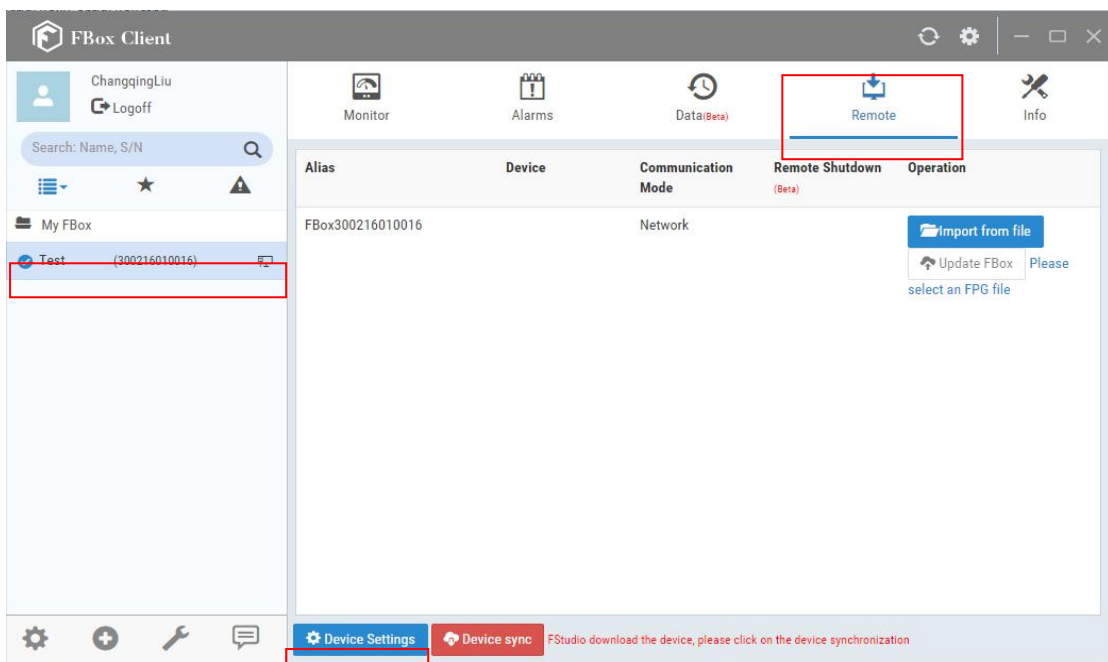

Fig. 4.4-4 The "Remote" functional area
(1) After log in the FBoxClient software, select the FBox, which is going to be connected with the PLC, in the FBox device list area and click the "Remote" function button in the major functional area, as shown in Fig. 4.4-4.